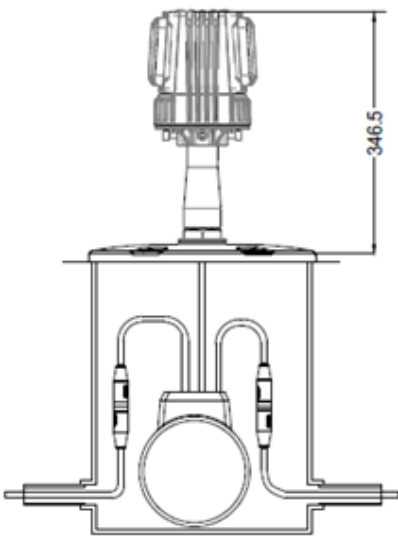

Figure 3-1
- Mounted on L- 867 deep base (Figure 3-1).